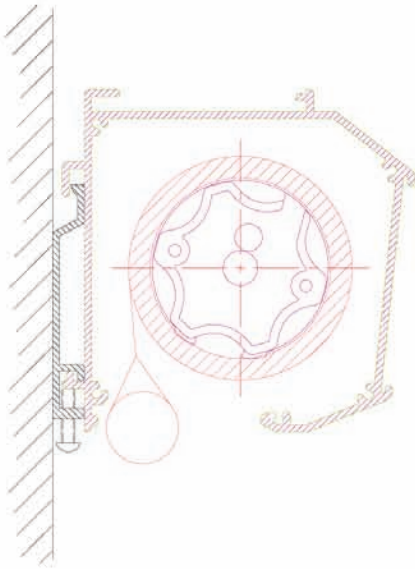

Figure 1a
- On Lectric II, III, IV, XL1 & XTC screens. When changing the upper limit, do not allow the Weight Bar to be pulled into the housing higher than shown in Figure 1a. The Weight Bar will jam the screen.